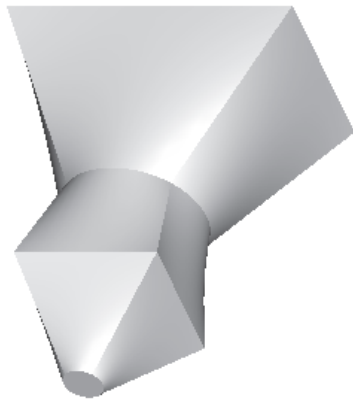

Figure 7-58 Shaded model
2. Choose the **Saved view list** button from the **View** toolbar. From the drop-down list choose the **Default** option. The model orients on the graphics screen as shown in Figure 7-58. You can use the CTRL+middle mouse button to change the orientation of the model.